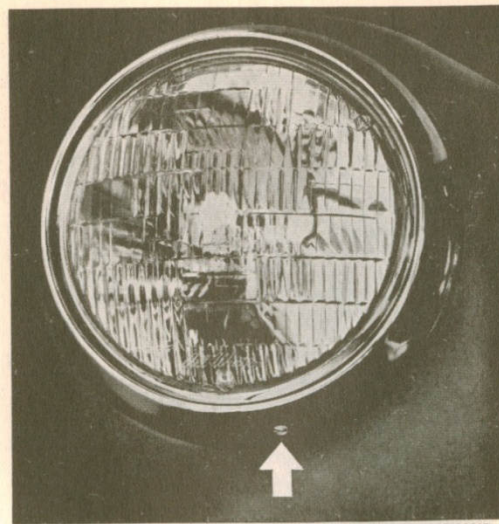

Fig. 10-61. Removing the headlight rim
1. Remove the headlight rim as shown in Fig. 10-61.